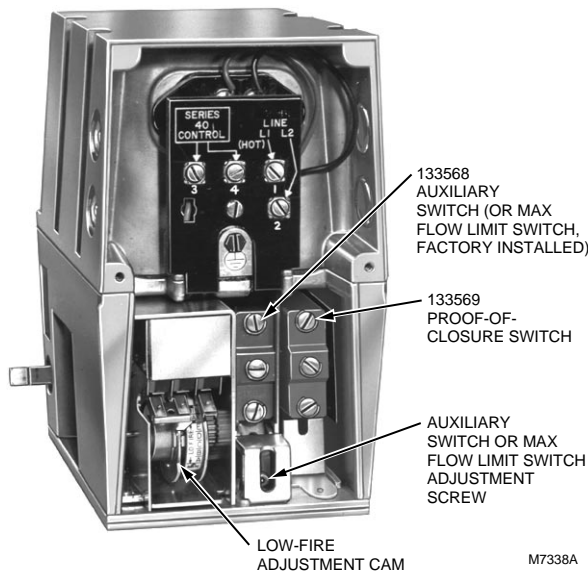

Fig. 2. V4062 Actuator with cover removed.
3. Insert the auxiliary switch in the position indicated in Fig. 2. Fasten with two screws through the actuator base.
4. Insert the proof-of-closure switch in the position shown in Fig. 2. The proof-of-closure switch mounts against the side of the actuator housing. The mounting holes are spaced to allow mounting the switch only in the correct position. Fasten with two screws through the actuator base.
The auxiliary switch can be adjusted to operate at any point in the actuator stroke. After installing the switch in the actuator, turn the adjustment screw (Fig. 2) clockwise to cause the switch to operate earlier in the stroke or turn counterclockwise  to cause the switch to operate later in the stroke.
Adjust Max Flow Limit Switch (Fig. 2)